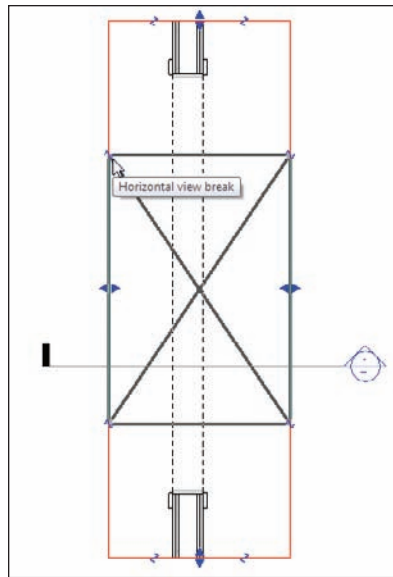

FIGURE 3.56 Splitting the section
4. With the crop region still selected, notice there are break icons similar to the make elbow icons in the level markers. Pick the break icon, as shown in Figure 3.56. You can now slice part of the section away, resulting in two separate cropped regions.